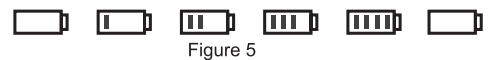

Figure 5
- 2.Plug the power adaptor into the corresponding connector(See Figure 5)
3.LCD indicates the charging progress as in Figure 5
- a. When LCD screen displays "□" during operation, the user should insert the adaptor in a timely manner. See Figure 5 in the Manual.